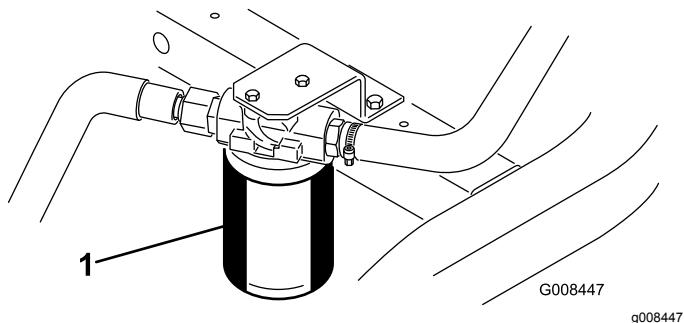

Figure 48
1. Clean the area around the filter mounting area (Figure 48). Place a drain pan under the filter and remove the filter.